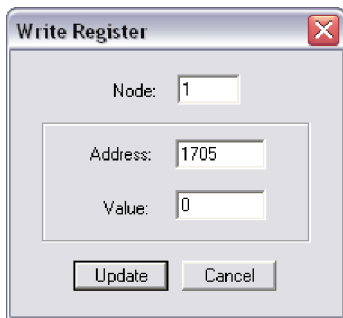

Fig. 241: Write register - enable the resetting procedure via RS-232/RS-485
- ⇒ Fig. 241 shows how the parameter is enabled using the ModScan32 Software. The value must be set to "1" to enable the parameter.